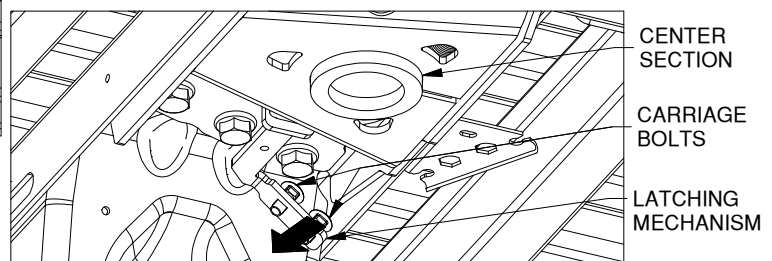

Figure D3: Looking up at center section.
- 3. Install bolts.** Retract the latching mechanism by pulling on the tab with the square holes and pushing it toward the cab. From the top down, insert a 3/8" carriage bolt in each of the square holes in the latching mechanism, see Figure D3.